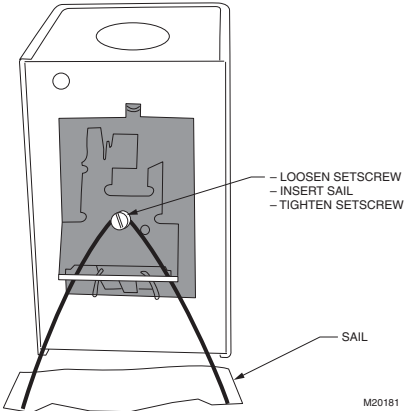

Fig. 10. Attaching sail to switch.
4. Attach the sail to the switch as shown in Fig 10.